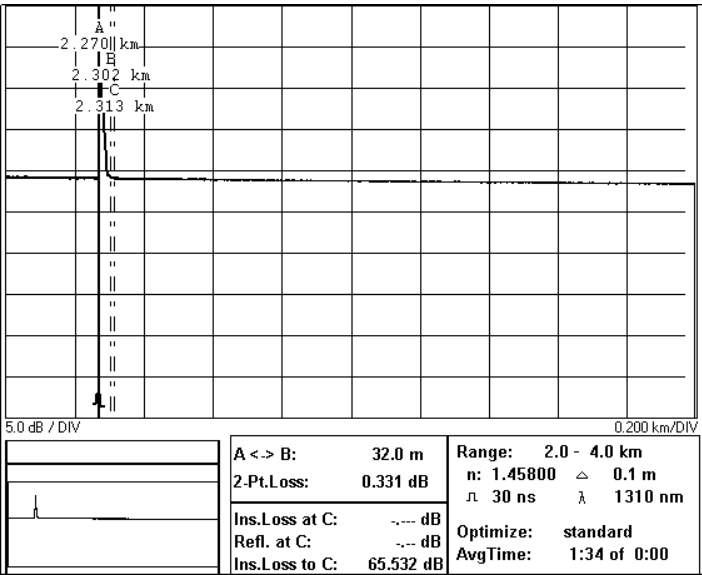

Figure D-7 Attenuation Deadzone Test: Position Marker C
- 14** Position marker A as close as possible to the left of the first reflection on the trace. See Figure D-7.
- 15** Position marker B as close as possible to the right of the first reflection on the trace. See Figure D-7.
- 16 Position marker C close to marker B. See Figure D-7.